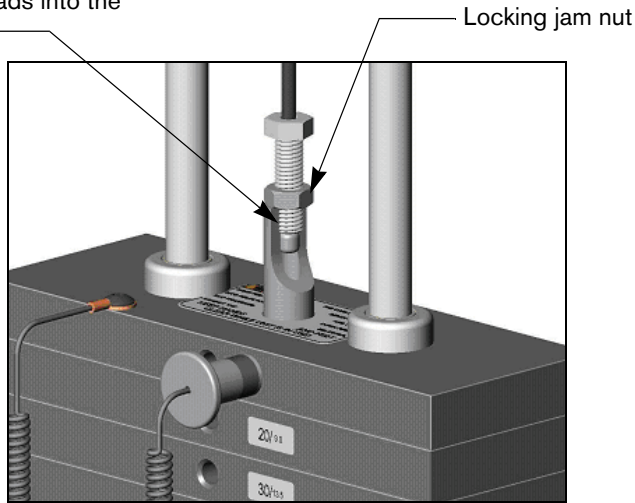

Figure 2: Cable bolt must have a minimum of seven threads into selector stem
- Ensure that the cable bolt is threaded a minimum of seven threads into the selector stem, and the locking jam nut is tight. (Refer to Figure 2.)
- Check the cable termination at the weight stack. For most equipment, the exposed shank can be no more than 1 ¼ inches (32mm); this distance ensures a minimum of 7 turns of the bolt into the selector stem (refer to Figure 2 earlier). Check and adjust the distance accordingly. *Also ensure that the locking jam nut is tight against the selector stem.*